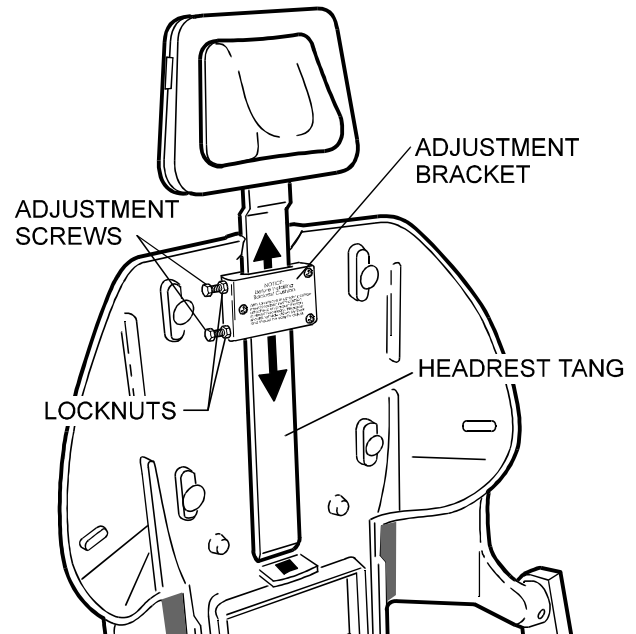

Figure 7
2. Insert the headrest tang in the slot and adjustment bracket at the top of the chair back (See Figure 7). When properly adjusted, the headrest should move freely up and down, but should not move on its own.
- 2) Then, loosen or tighten the adjustment screws to achieve the desired tension and re-tighten the locknuts (Figure 7).